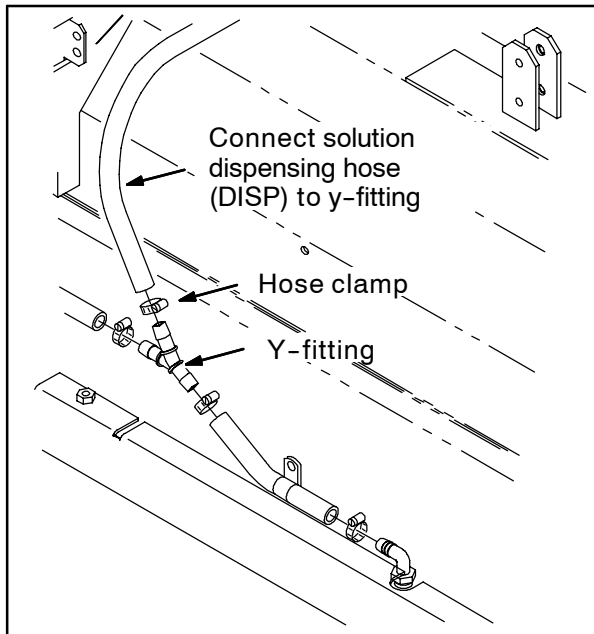
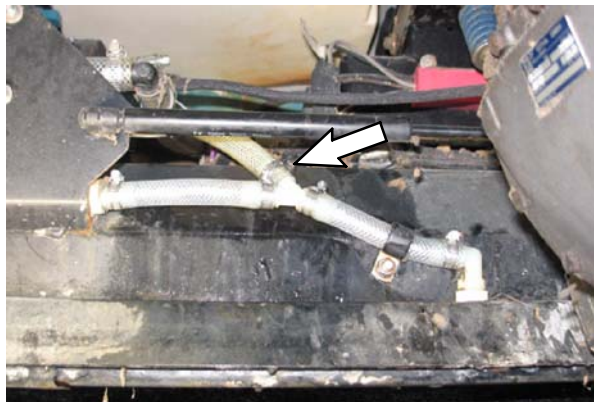

FIG. 12
FIG. 13
14. Route the hose labeled DISP to the y-fitting and use a hose clamp to secure the hose to the y-fitting. Refer to Fig. 12 and Fig. 13.